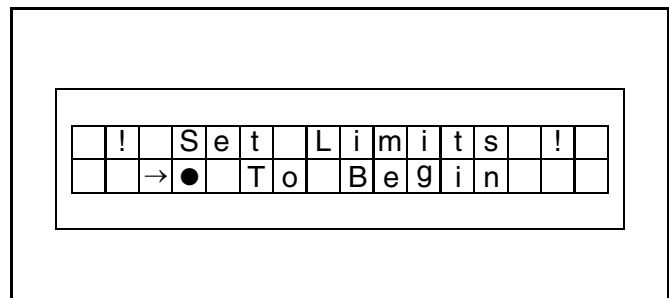

Figure 17
2. Apply power to the control system. During the system initialization, the display will indicate that the door open and close limits must be set by displaying “! Set Limits !”. (See Figure 17.)